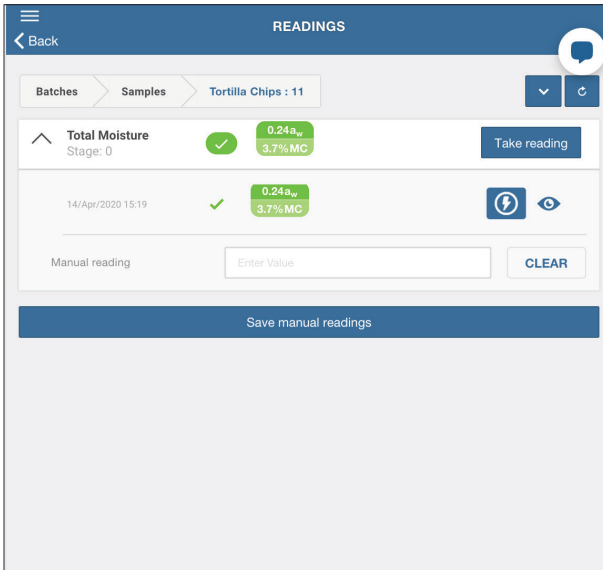

Figure 61 Take reading on Readings window
6. Select the **Take reading** button to start the reading process (Figure 61).